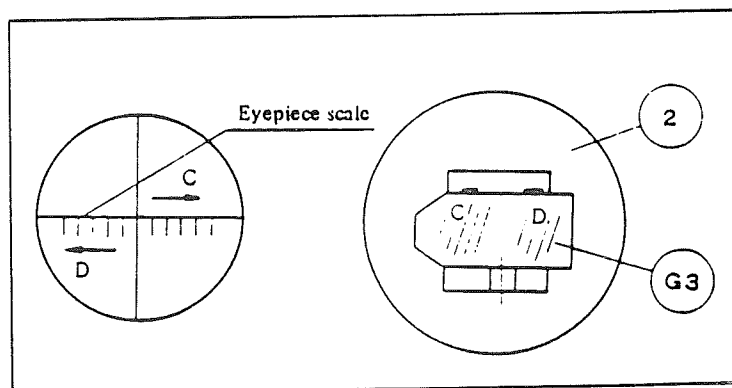

Fig. 34
- 1) Insert the crosshair eyepiece into lefteye sleeve (105) (55), and move the test plate to bring its center into coincidence with the center of crosshair.
- 5) If the image moves vertically, raise prisms (G6) and (G7) in the direction of the arrow in Fig. 34.
- 8) Tighten plastic set screw (110) (11), using a wooden handle screw driver